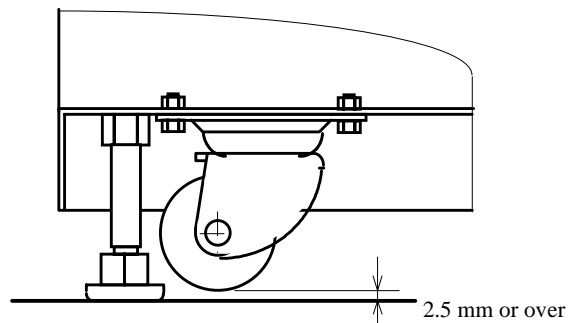

Figure 4.7.2 Clearance between Caster and Floor
- ① Adjust the leveling bolts as shown below so that the rack frame can be installed properly. (See Figure 4.7.2.)